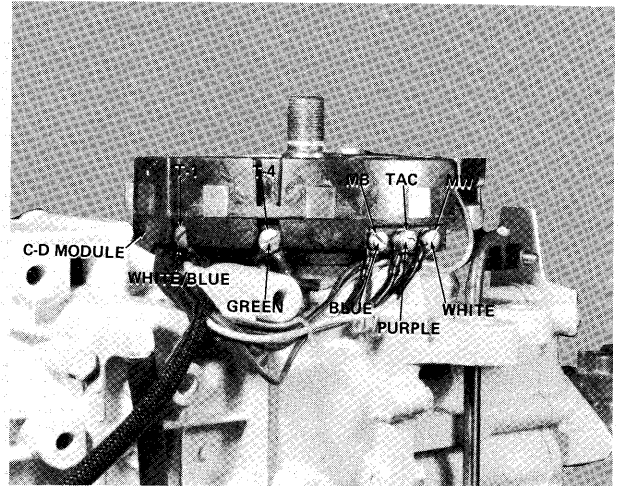

Figure 14 - Connection Lead Wires to C-D Module
- B. Install screws, lead wires and lockwasher to C-D module and tighten securely. See figure 14 for proper connection of lead wires.